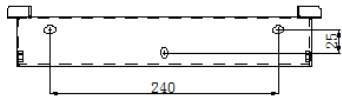
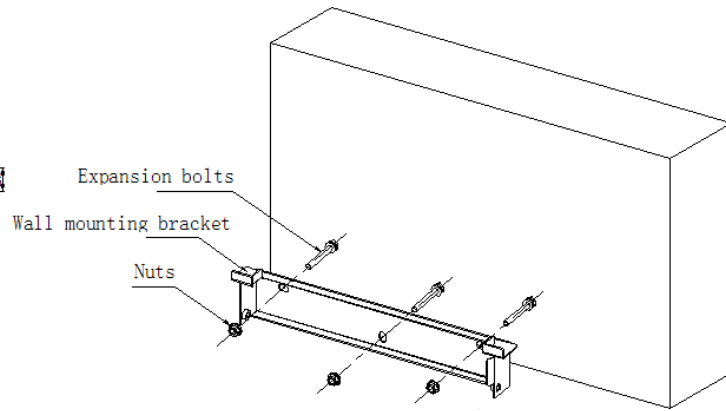

Fig. 8
Fig. 9
1. Mark the hole positions on the wall where the inverter will be installed according to the hole positions on wall mounting bracket (Fig. 8). Drill suitable mounting holes by an electric drill at the marked position according to the specifications of the expansion bolts to be used, and then secure the wall mounting bracket to the wall through the expansion bolts with a torque of at least 30Nm for the fastening nut (Fig. 9). It is recommended to use M6x50 expansion bolts.